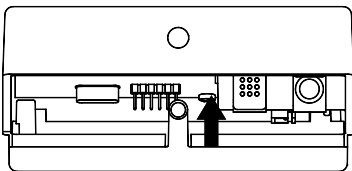

Fig. 4
**2** Turn the cover, while pressing it slightly, until it is fully extracted (Fig. 4).